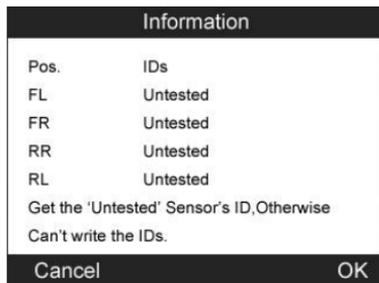

Figure 4.25
- ✎ **NOTE:** *If there are untested sensors in the vehicle, the writing ID process cannot proceed. The tool will display a warning message as below.(Figure 4.25) In this case, follow the sensor check procedure to activate all sensors in vehicle and register sensor IDs again.*